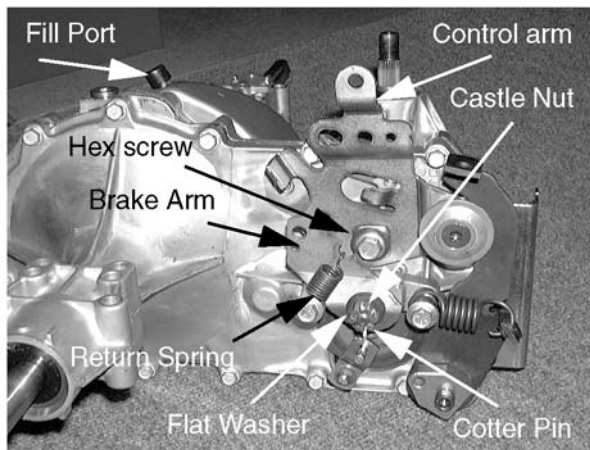

Figure 6-53.
1. Remove the hydrostatic fill port using a 1/4" allen wrench. See Figure 6-53.